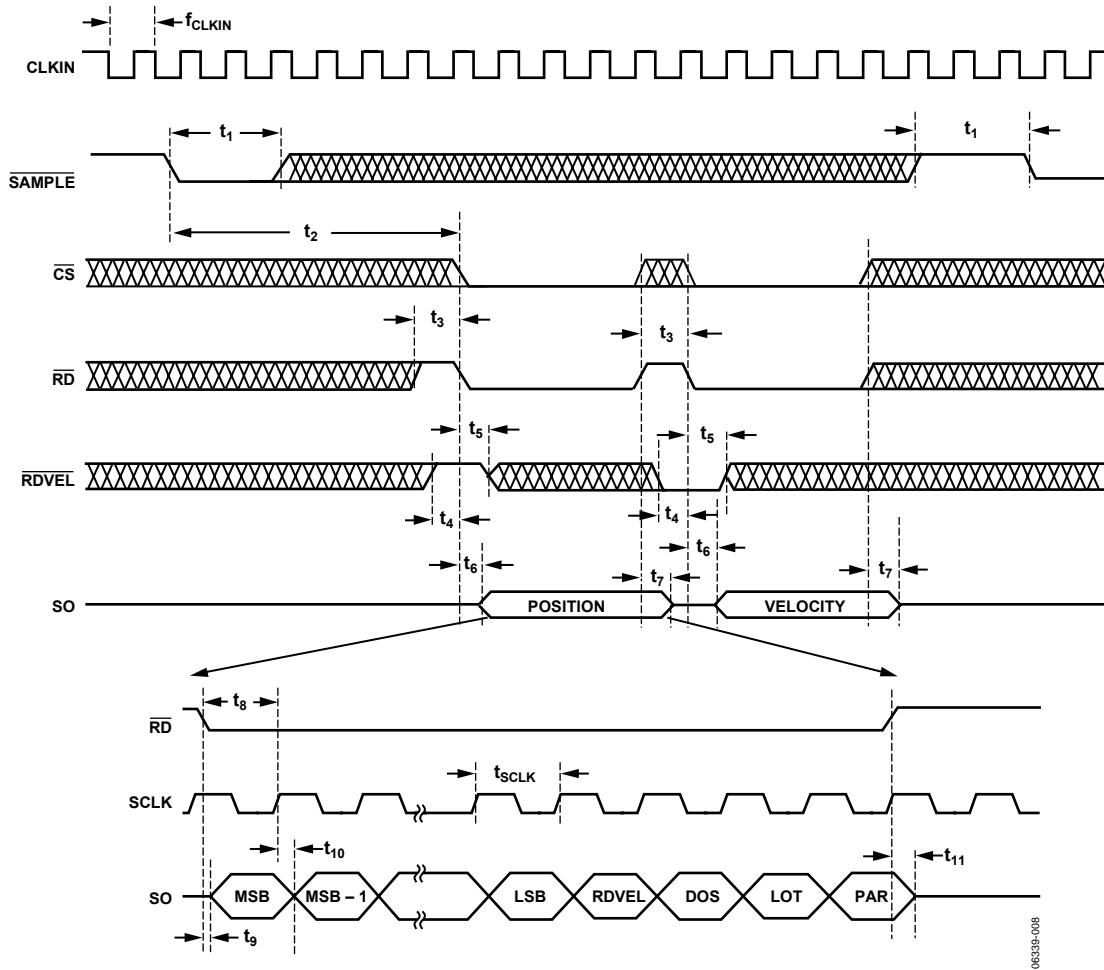

Figure 8. Serial Port Read Timing
The angular position and velocity are available on the AD2S1205 in two 12-bit registers. These registers can be accessed via a 3-wire serial interface (SO, \overline{RD} , and SCLK) that operates at clock rates of up to 25 MHz and is compatible with SPI and DSP interface standards. The serial interface is selected by holding the \overline{SOE} pin low. Data from the position and velocity integrators are first transferred to the position and velocity registers using the \overline{SAMPLE} pin. The \overline{RDVEL} pin selects whether data is transferred from the position or velocity register to the output register, and the \overline{CS} pin must be held low to transfer data from the selected register to the output register. Finally, the \overline{RD} input is used to read the data that is clocked out of the output register and is available on the serial output pin (SO). When the serial interface is selected, DB11 is used as the serial output pin (SO), DB10 is used as the serial clock input (SCLK), and pins DB0 to DB9 are placed into the high impedance state. The timing requirements for the read cycle are described in Figure 8.
The output shift register is 16 bits wide. Data is clocked out of the device as a 16-bit word by the serial clock input (SCLK). The timing diagram for this operation is shown in Figure 8. The 16-bit word consists of 12 bits of angular data (position or velocity, depending on \overline{RDVEL} input), one \overline{RDVEL} status bit, and three status bits (a parity bit, a degradation of signal bit, and a loss of tracking bit). Data is clocked out MSB first from the SO pin, beginning with DB15. DB15 through DB4 correspond to the angular information. The angular position data format is unsigned binary, with all 0s corresponding to 0° and all 1s corresponding to $360^\circ - 1$ LSB. The angular velocity data format is twos complement, with the MSB representing the rotation direction. DB3 is the \overline{RDVEL} status bit, with a 1 indicating position and a 0 indicating velocity. DB2 is DOS, the degradation of signal flag (refer to the Fault Detection Circuit section). Bit 1 is LOT, the loss of tracking flag (refer to the Fault Detection Circuit section). Bit 0 is PAR, the parity bit. The position and velocity data are in odd parity format, and the data readback always contains an odd number of logic highs (1s).